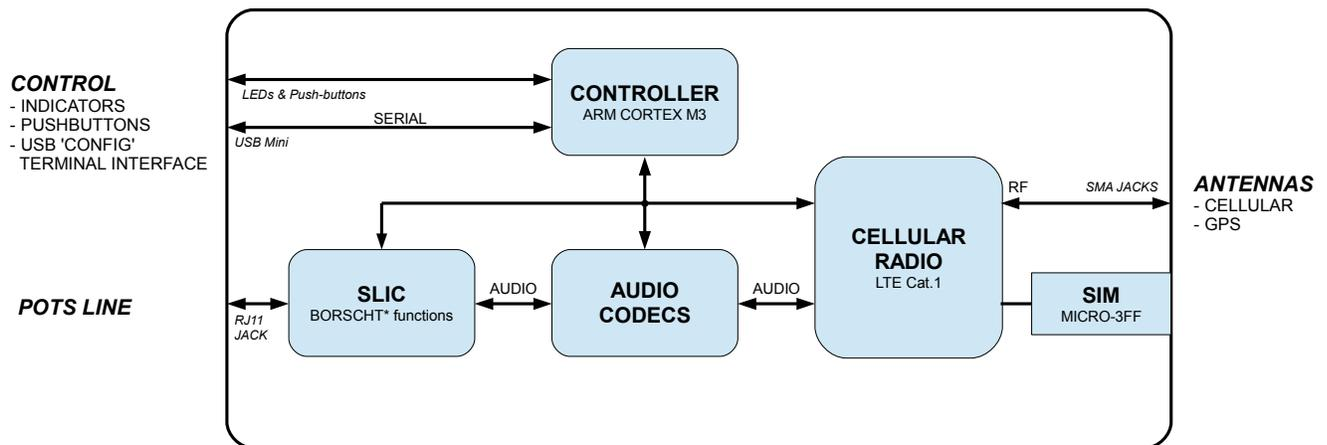

Figure 1 POTSwap Block Diagram
- Figure 1. LTE POTSwap Block Diagram